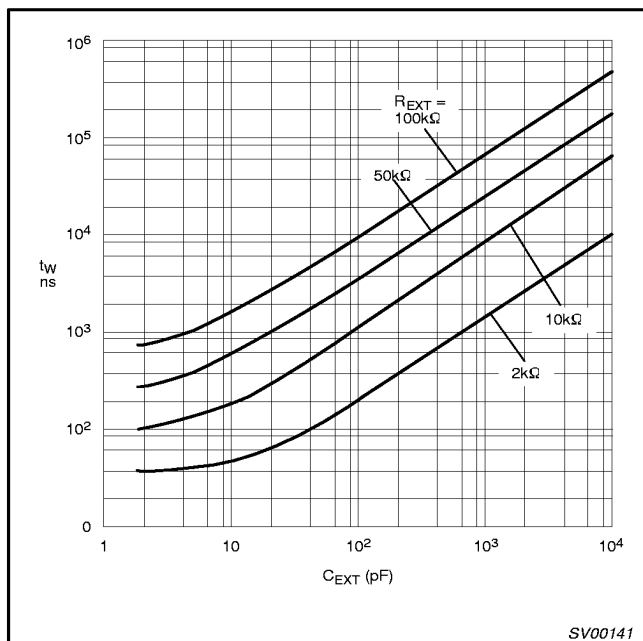

Figure 5. Typical output pulse width as a function of the external capacitor values at $V_{CC} = 3.3$ V and $T_{amb} = 25^\circ\text{C}$.
4. For other R_{EXT} and C_{EXT} combinations see Figure 5.